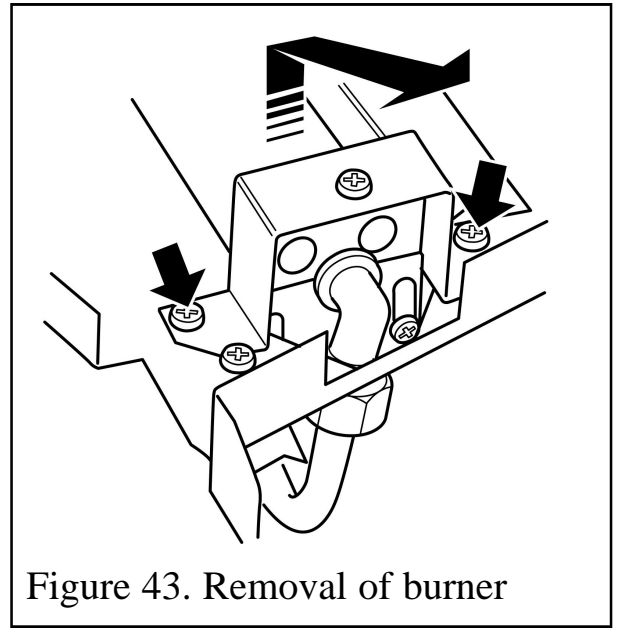

Figure 43. Removal of burner
(See figure 43).
3. Remove the two screws from the burner clamping plate (See figure 43)